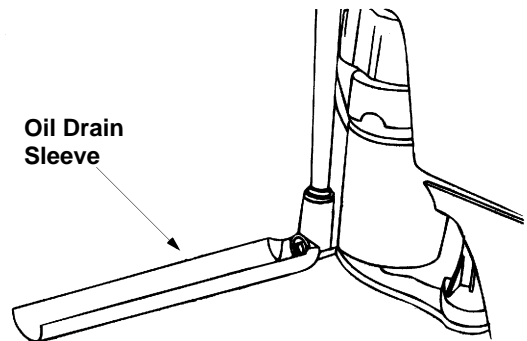

Figure 16
- To drain the oil, snap small end of the oil drain sleeve onto oil sump. See Figure 16.